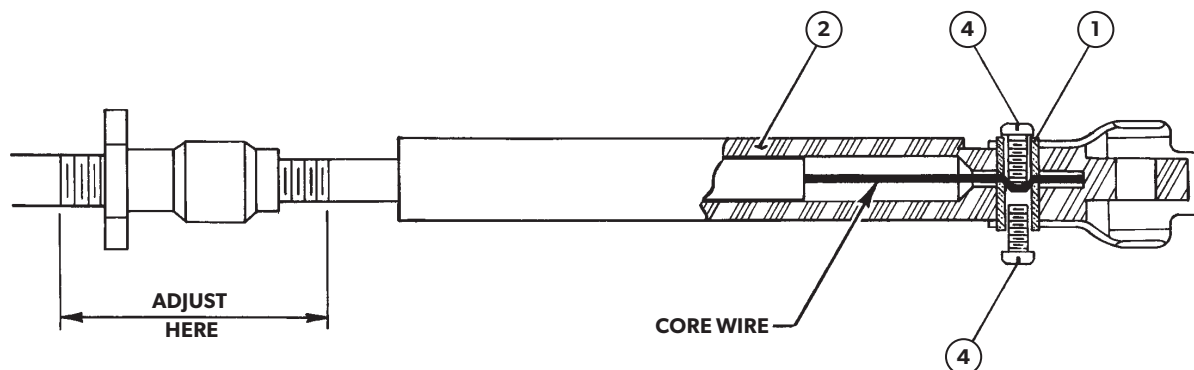

Figure 2.
3. Hold Insert in position and feed core wire through Insert. The core wire must pass fully through the insert and bottom in casing guide (see figure 2).
1. Install and adjust control cable to engine in accordance with engine manufacturer's instructions. Cable travel may be adjusted by rotating cable adjustment nut in the appropriate direction (see figure 2).